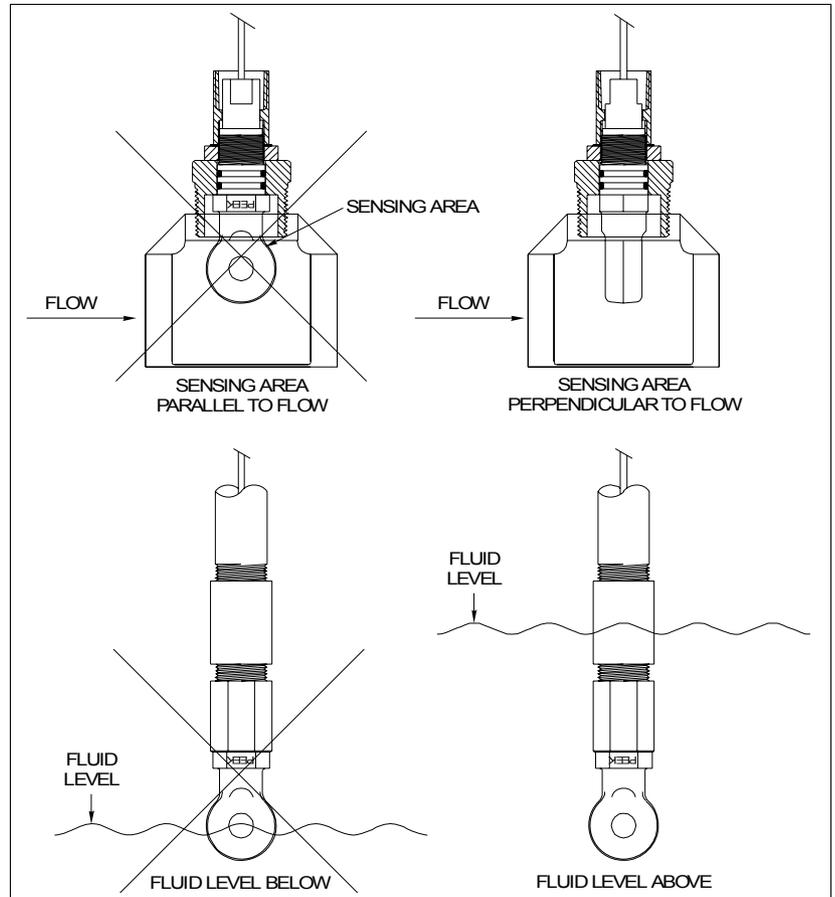

Figure 2-2. Sensor Orientation Requirements
- The sensing area must be perpendicular to the fluid flow path. Figure 2-2 shows the sensor orientation requirements.
- The sensing area must be completely immersed into the fluid (Fig. 2-2). Partial and varying immersion will cause measurement errors.